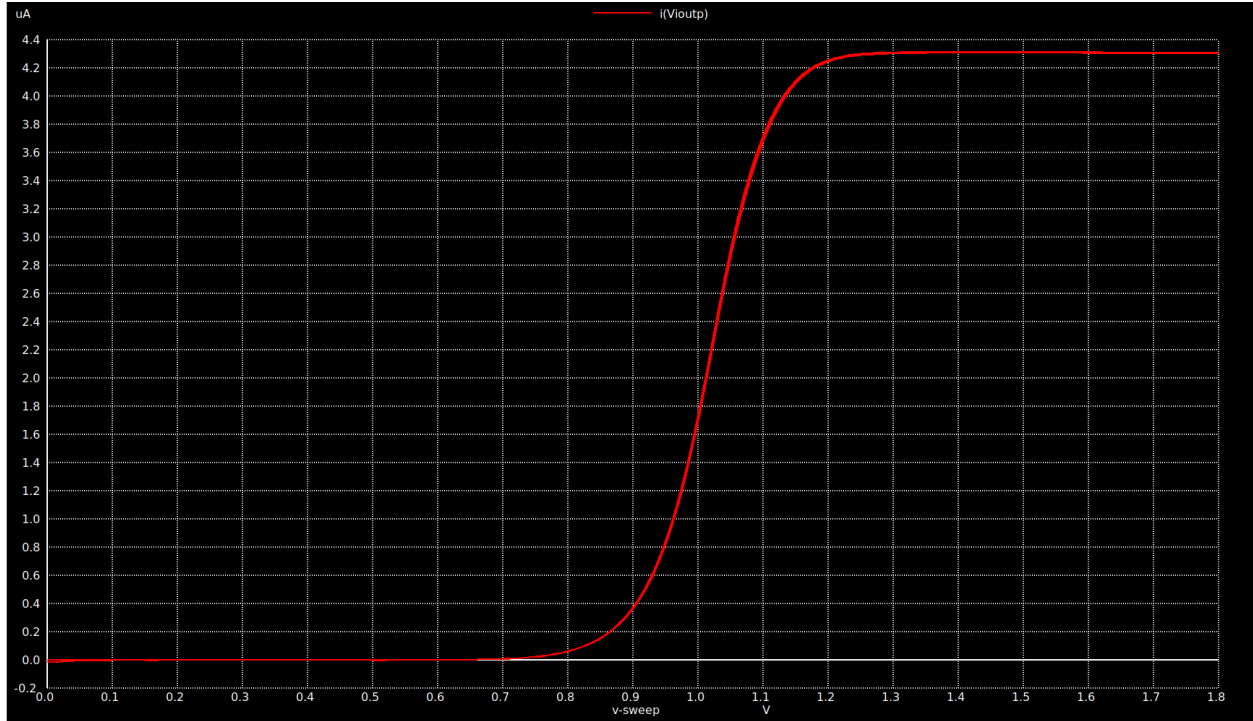

Figure 3. Current generator current output as we sweep VDD.
1. The bias current generator produces a current output with less than 0.5% variation per volt which is fed through a pMOS cascoded current mirror into the DAC ladder. There is also no visible variation in the input current when the input node of the DAC ladder (into which the bias current is fed) varies between 0 and 0.5V. See Figure 3.